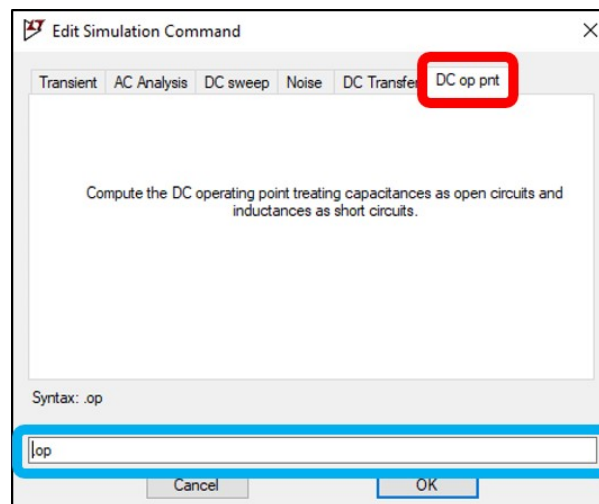
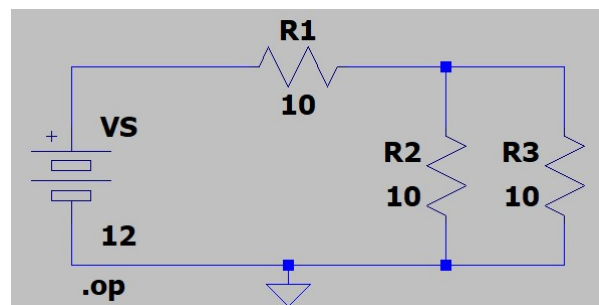

Figure 34: LTspice DC operating point tab.
Figure 35: LTspice example of schematic with simulation command.
2. Select the kind of simulation you want to run. As a start, we are only interested in the steady-state DC node voltages and loop currents. Therefore, a DC operating point simulation will suffice. To set up the simulation, navigate to the DC operating point simulation type by clicking on the *DC op pnt* tab in the *Edit Simulation Command* window indicated in red in Figure 34. **Note:** You can choose different simulation types by navigating through the tabs. You will see the spice simulation command (blue box in Figure 34) change as you select different simulation types and change parameters. You can experiment with different simulation types on your own by using the user interface or by modifying the simulation command manually. You might need to do some Googling to understand some of the parameters.
3. Click *OK* to close the *Edit Simulation Command* window. You will see that some text now follows your cursor. Click somewhere on your schematic to place the text. This text is the spice simulation command that was also displayed in the blue box of Figure 34. This text will provide the software with all the parameters required to run the simulation. Your schematic should look like Figure 35 (note the simulation command in the bottom left).